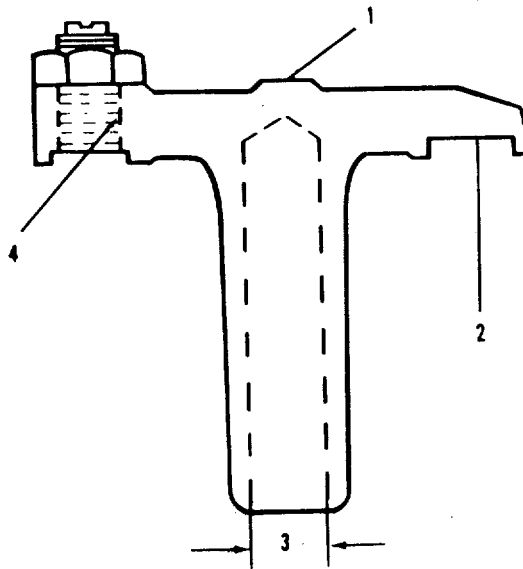

FIGURE 4-10. Crosshead Inspection Areas.
- (a) Check the inside diameter of the bore (3, FIGURE 4-10), replace the crosshead if the bore exceeds 0.440 inch (11.18 mm).
- (c) Inspect the rocker lever contact surface (1) and the valve stem contact surface (2) for wear. Check the adjusting screw and threads in the crosshead (4) for wear or damage (FIGURE 4-10).